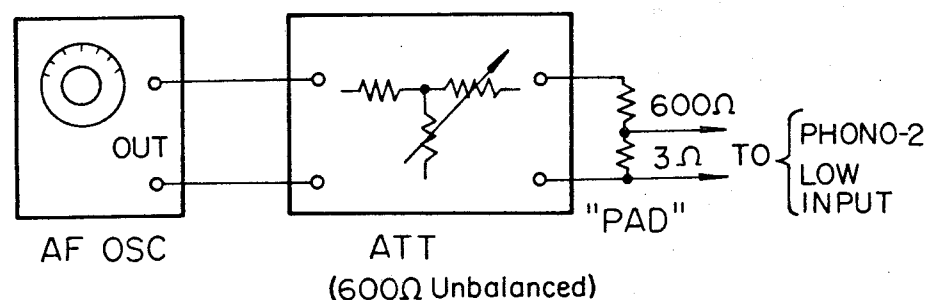

Fig. 3-1. PHONO-2 (LOW) Sensitivity Measurement Test Set-up
- Note: a. When measuring the sensitivity of the PHONO-2 LOW input, insert a pad with a loss of 43 dB between the attenuator and input terminal. See Fig. 3-1.
(8) PHONO-2 Input (LOW)
- Step 3: Adjust the attenuator to obtain a 1 volt reading on the VTVM. The input sensitivity is the attenuator reading plus the pad loss. See Fig. 3-1.
(9) TAPE HEAD Input
(10) MIC Input